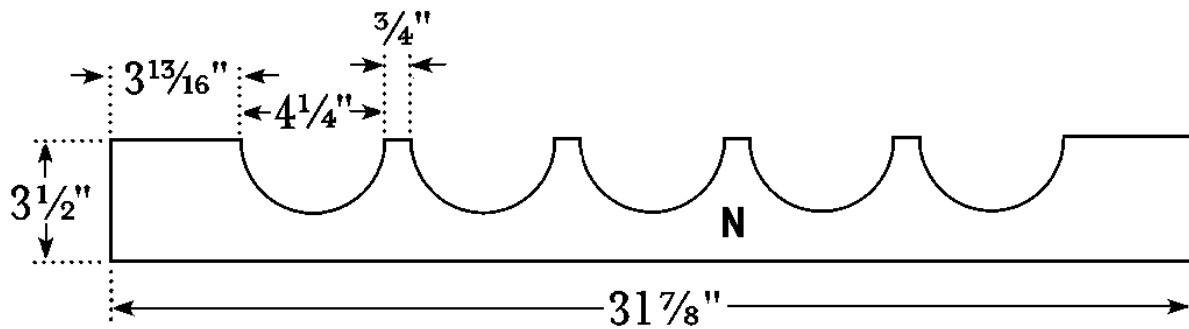

Figure 8
1. Cut two Wine Bottle Supports (N) from 1 x 4 pine, each measuring $31\frac{7}{8}$ inches. Referring to *Figure 8*, cut five semi-circular cutouts to accommodate the bottom of the wine bottles. Each cutout has a radius of $4\frac{1}{4}$ inches. (Coincidentally, the cutout is the same diameter of a one-quart paint can). Use $1\frac{5}{8}$ " wood screws to attach the Wine Bottle Supports (N) level with and six inches behind the Horizontal Wine Trims (F). Screw